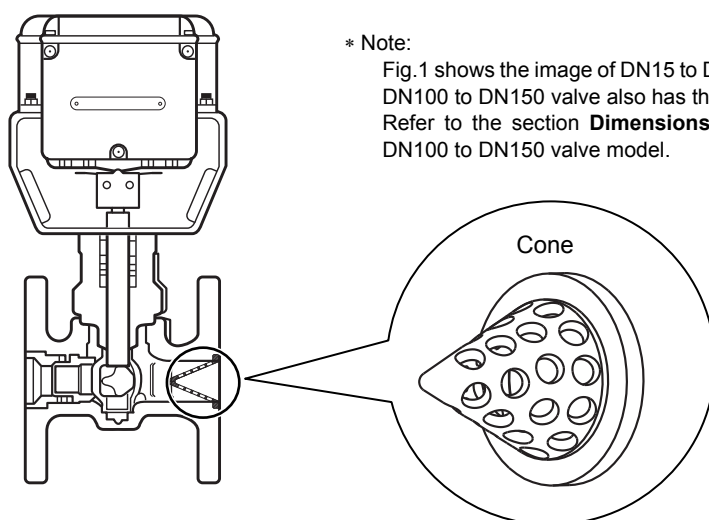

Figure 1. Mechanism of cavitation erosion resistance
- Applicable to high differential pressure applications: Water flow is controlled inside the valve to prevent over pressure drop, leading to cavitation erosion resistance. (See Fig. 1.)